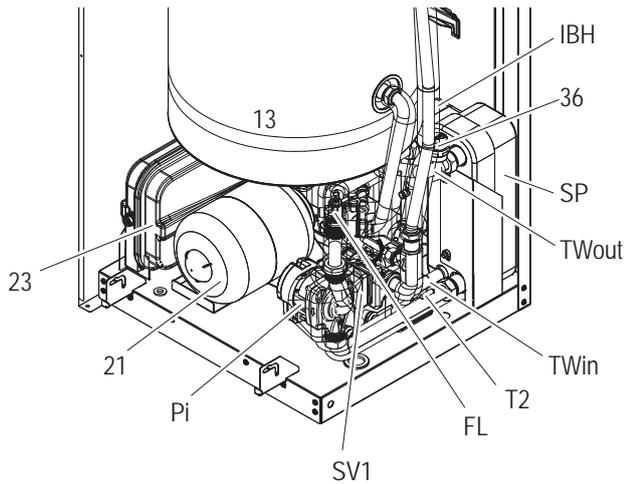
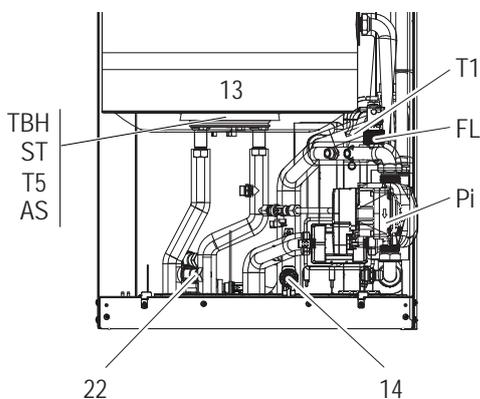
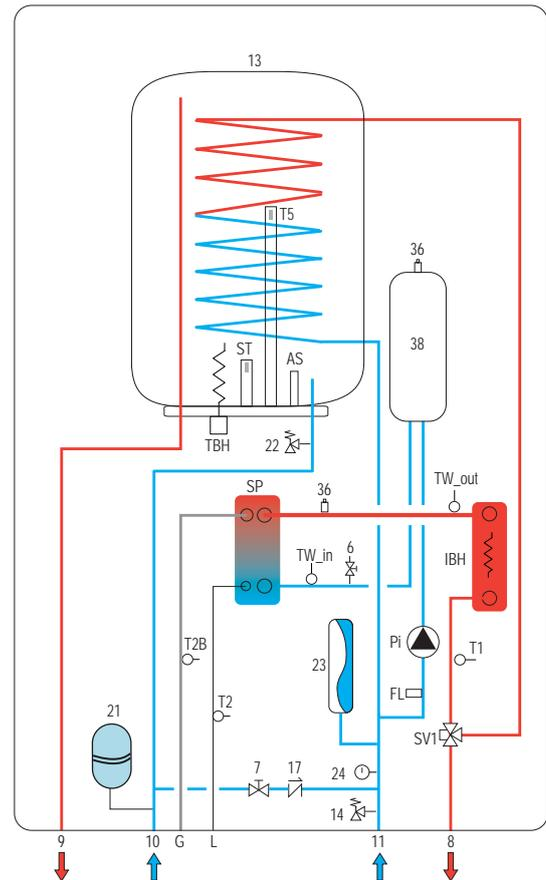
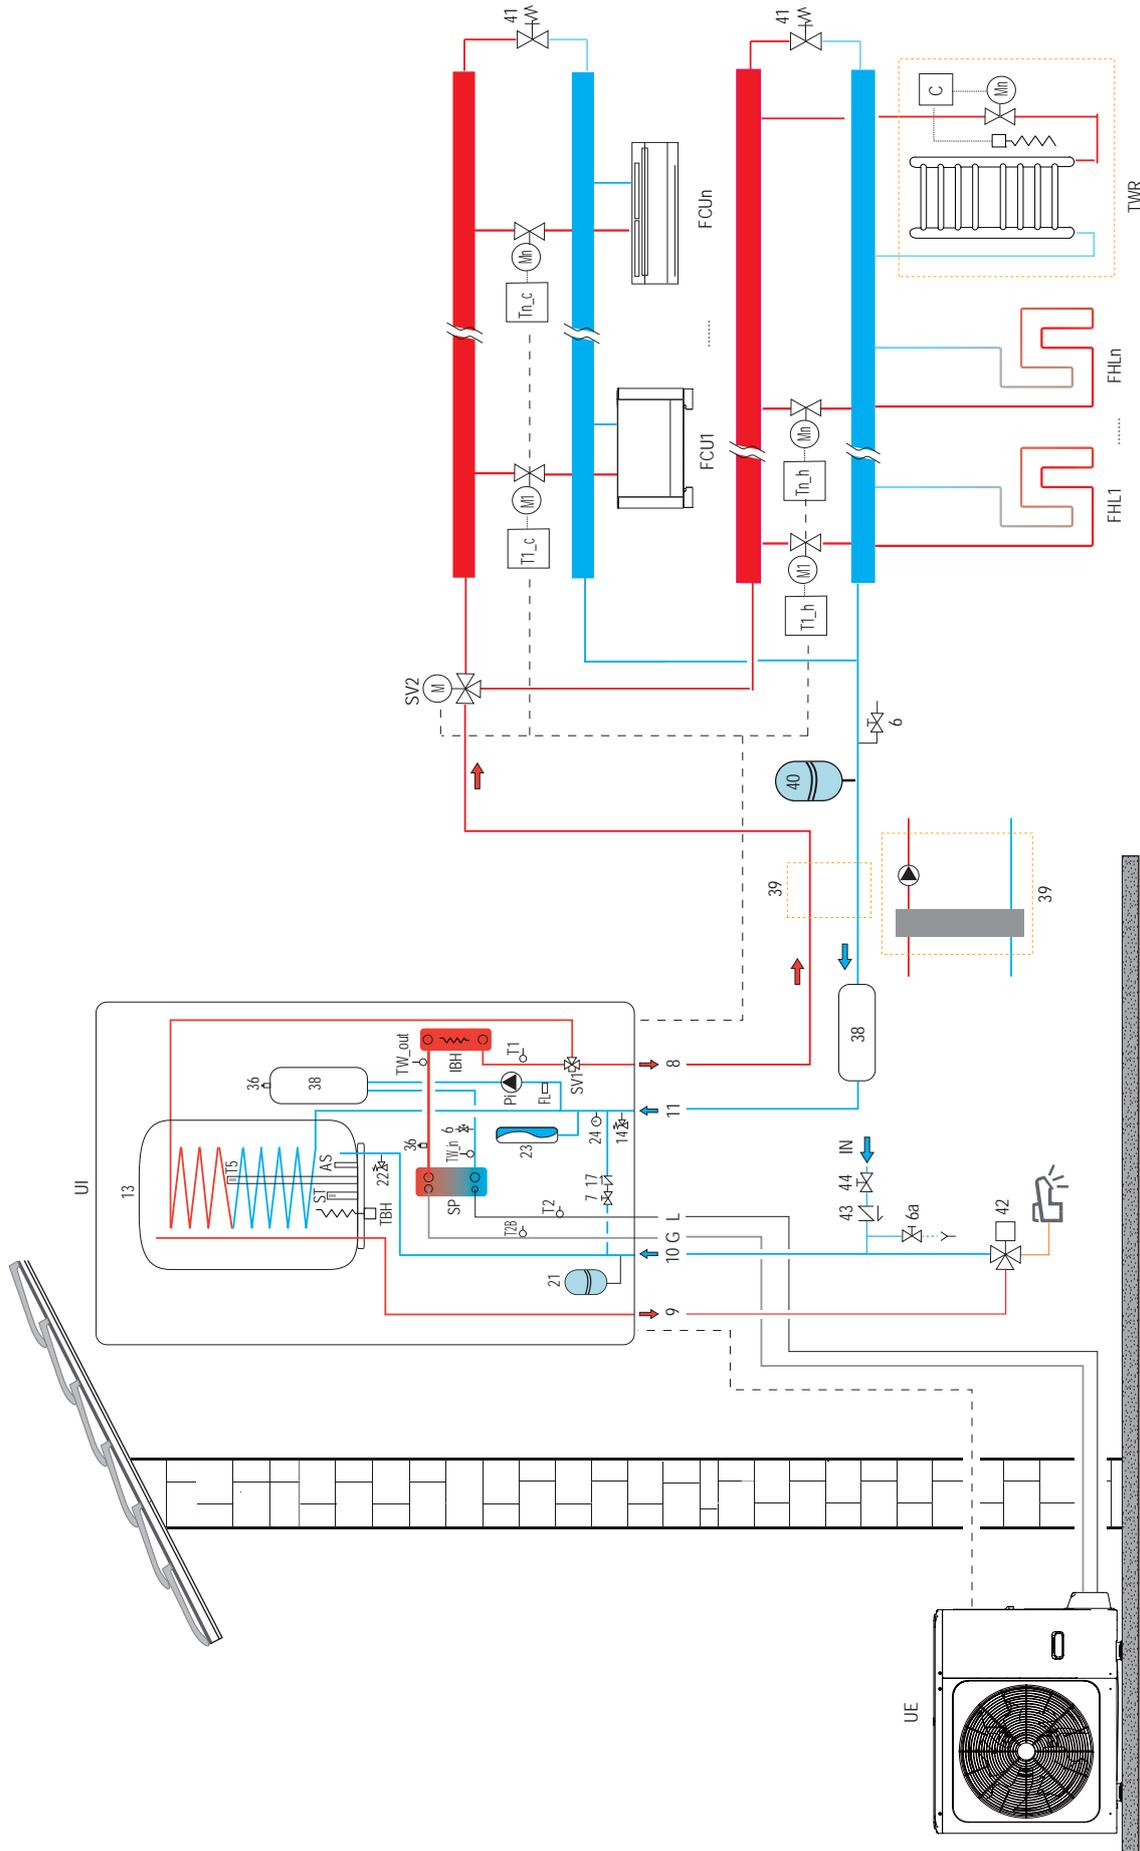

fig. 4 - General view
fig. 5 - Description of components - front view (without ref 21 and 23)
fig. 6 - Indoor unit hydraulic diagram
fig. 7 - Example diagram of the system
### LEGEND (“fig. 4 - General view”, “fig. 5 - Description of components - front view (without ref 21 and 23)”, “fig. 6 - Indoor unit hydraulic diagram”, “fig. 7 - Example diagram of the system”)
For the legend of fig. 7 refer to the previous page.